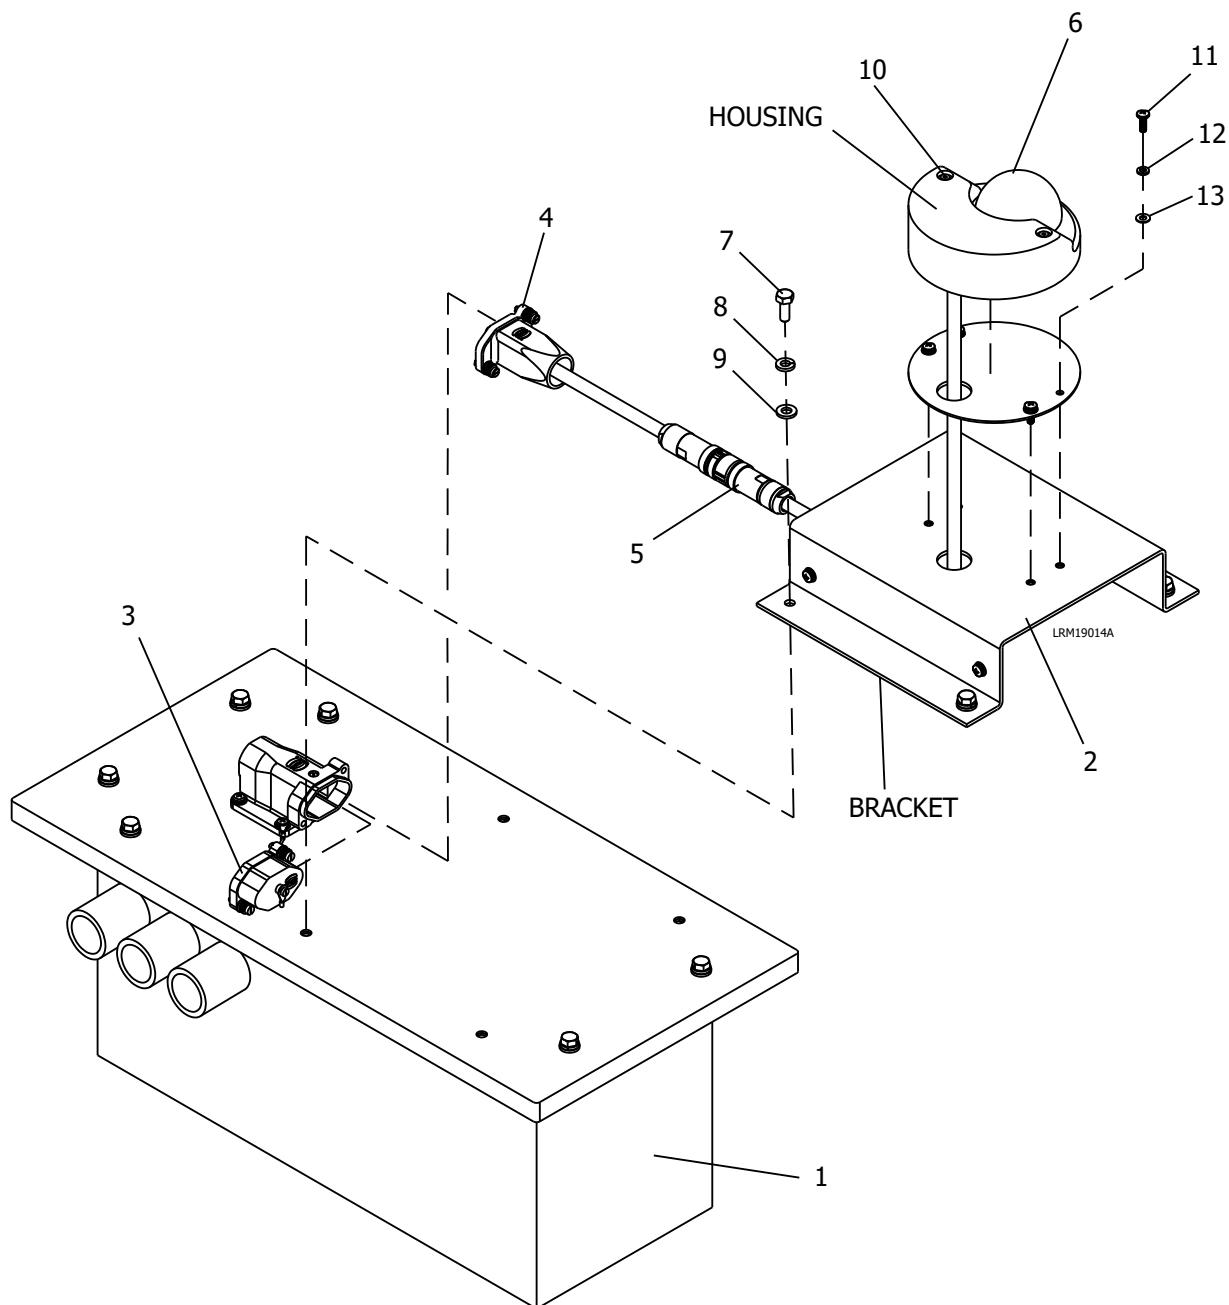

Figure 7-131: Roof Mounted Camera
1. Disconnect the electrical connection (4) from the receptacle. See Figure 7-131.
2. Remove the four M6 x 16 bolts (7), M6 lock washers (8), and M6 plain washers (9).
3. Carefully remove the Roof Mounted Camera Assembly from the roof junction box (1)
4. Install the four M6 plain washers (9), M6 lock washers (8), and M6 x 16 bolts (7), that were removed in step 2 above. Torque the bolts to 6.9 Nm (5 ft-lbs.).
5. Install the dust cover (3) onto the receptacle.